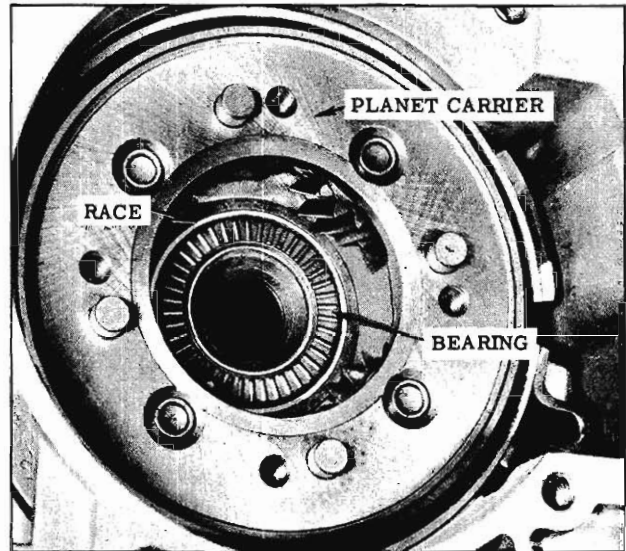

Fig. 6-100 Installing Thrust Bearing
24. Install rear unit sun gear to rear carrier thrust bearing into bearing race. (Fig. 6-100)